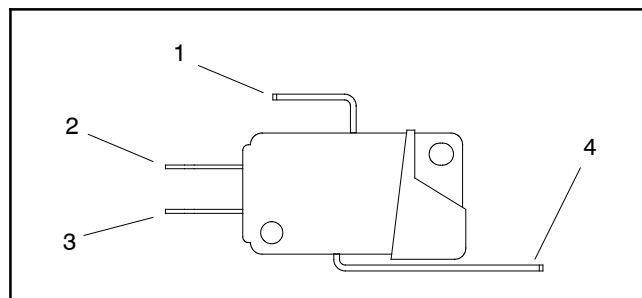

Figure 49
4. Connect a multimeter (ohms setting) across the normally open (NO) and common terminals of the switch (Fig. 49).